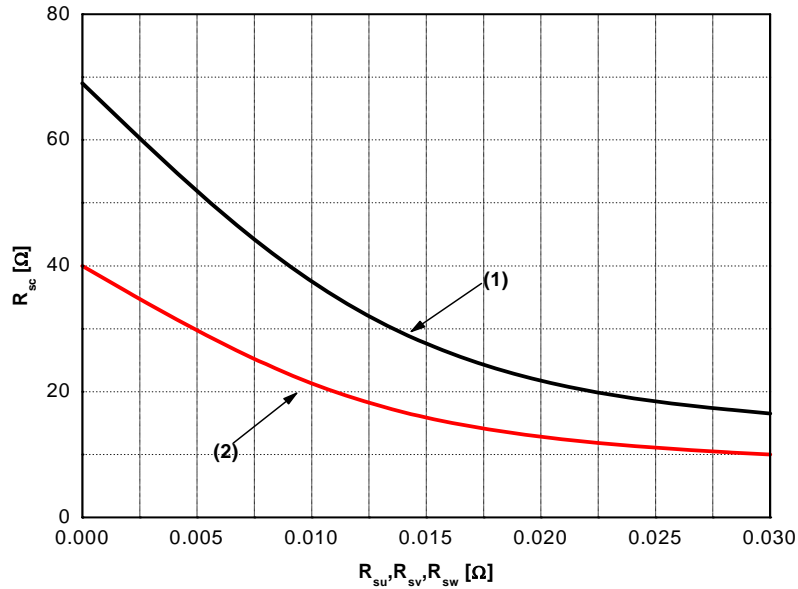

Figure 6. R_{SC} Variation by Change of Shunt Resistors (R_{SU}, R_{SV}, R_{SW}) for Short-Circuit Protection
- Short-circuit protection is functioning only at the low-sides. It would be recommended that the value of the external sensing resistor (R_{SC}) should be selected around 40 Ω in order to make the SC trip-level of about 75A. at the shunt resistors (R_{SU}, R_{SV}, R_{SW}) of 0 Ω. For the detailed information about the relationship between the external sensing resistor (R_{SC}) and the shunt resistors (R_{SU}, R_{SV}, R_{SW}), please see Figure 6.